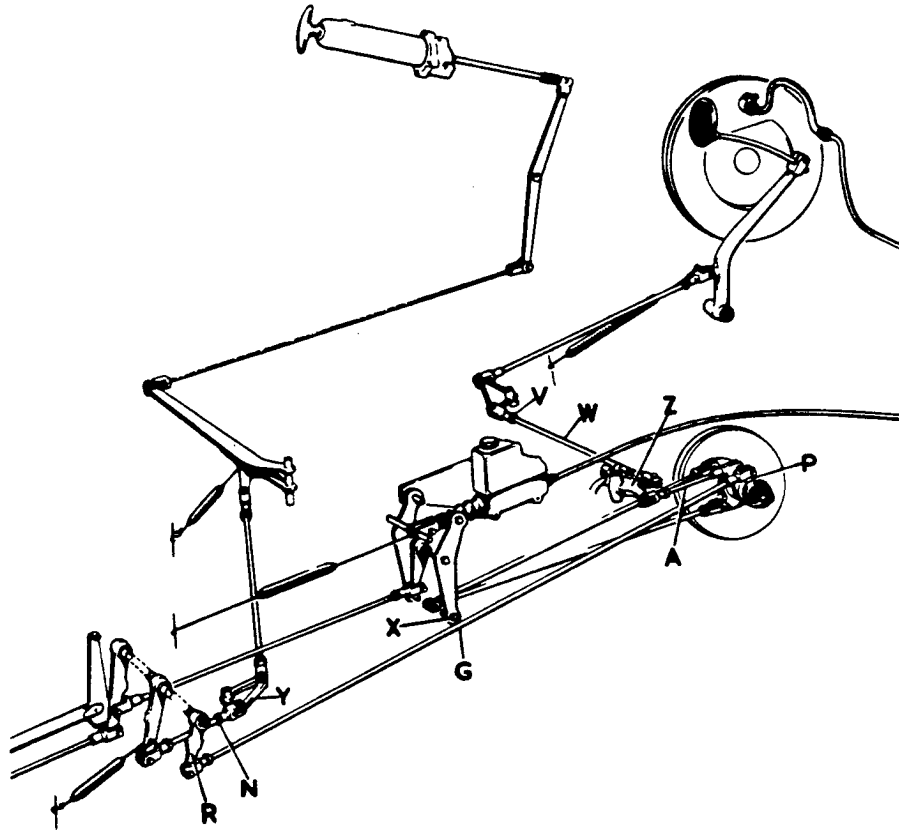

FIG. 3. SERVO AND BRAKE OPERATING RODS.
20. Remove the servo:- disconnect foot brake rod (A, Fig. 3), from lever (Z), disconnect hand brake lever rod (N) from lever (Y). Disconnect rod (G) from lever (R) and unscrew the rod from socket on actuating lever (P) of servo. Remove the 1/4" bolt (X) from master cylinder equaliser bracket to release the two drag link rods.
24. Disconnect foot brake, transfer rod at (W) Fig. 3, unscrew from joint (V) and remove.